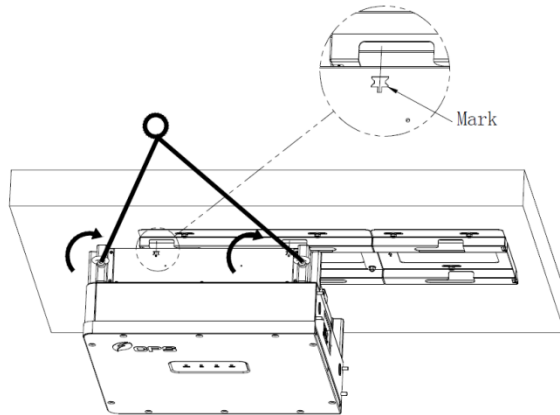

Figure 3-11 Mount the Main Enclosure on the Bracket by Lifting Sling
Following method A or B, mount the main enclosure by aligning the mark on the top of the main unit with the opening of the wall bracket (**Figure 3-11**), setting the main enclosure in the track.
- A. Lift mounting: screw two lifting eye bolts M10 (2pcs) into the studs at the top of the inverter. Use sling rope or bar (inserted through both lifting eye bolts) to lift the inverter onto the bracket. The minimum angle between the two sling ropes should be less than 90 degrees (**Figure 3-11**).